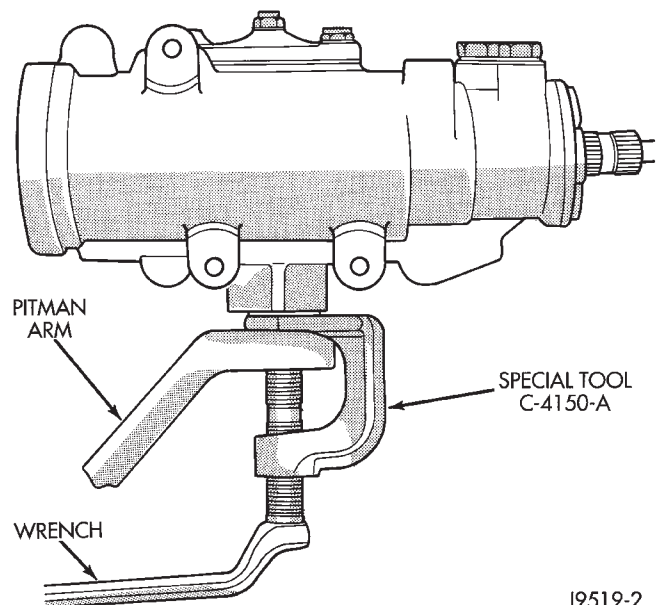

Fig. 4 Pitman Arm Removal
(1) Remove the cotter pin and nut from the drag link at the pitman arm.
(2) Remove the drag link ball stud from the pitman arm with a puller.
(3) Remove the nut and washer from the steering gear shaft. Mark the pitman shaft and pitman arm for installation reference. Remove the pitman arm from steering gear with Puller C-4150-A (Fig. 4).
(1) Align and install the pitman arm on steering gear shaft.
(2) Install the washer and nut on the shaft. Tighten the nut to 251 N·m (185 ft. lbs.) torque.
(3) Install drag link ball stud to pitman arm (Fig. 4). Install and tighten nut to 74 N·m (55 ft. lbs.) torque. Install a new cotter pin.